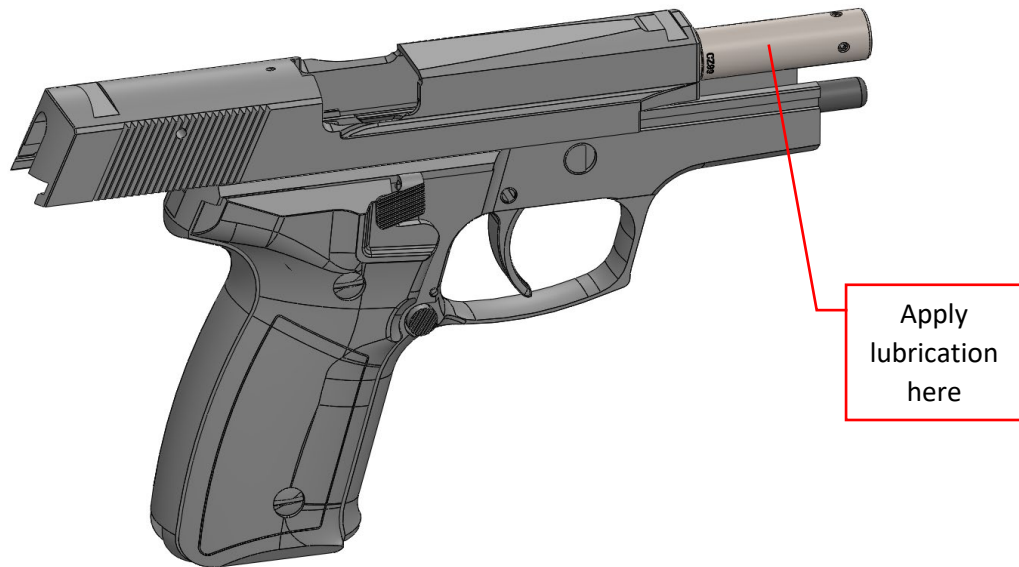

Figure 4: Lubrication of Recoil Kit Barrel
- Lock the slide to the rear position. Apply a thin layer of approved lubricant to the portion of the recoil kit that protrudes thru the front of the slide (Figure 4).